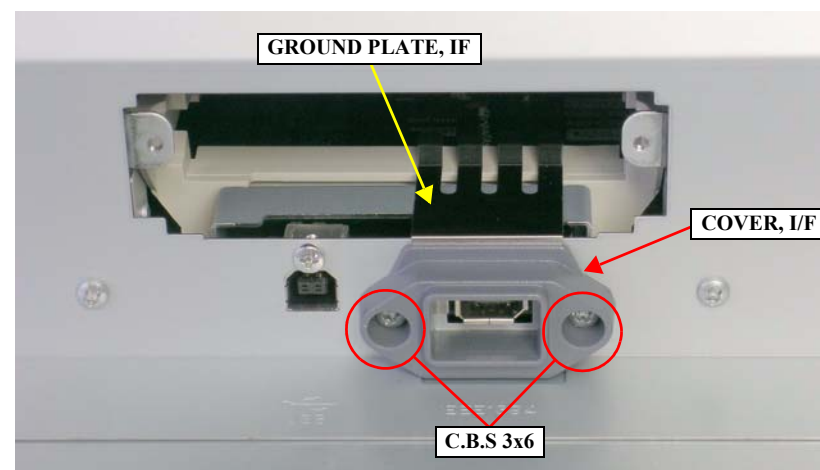

Figure 4-25. Removing the COVER, I/F and the GROUND PLATE, IF
2. Remove the two screws that secure the COVER, I/F and remove it together with the GROUND PLATE, IF. *See Figure 4-25.*